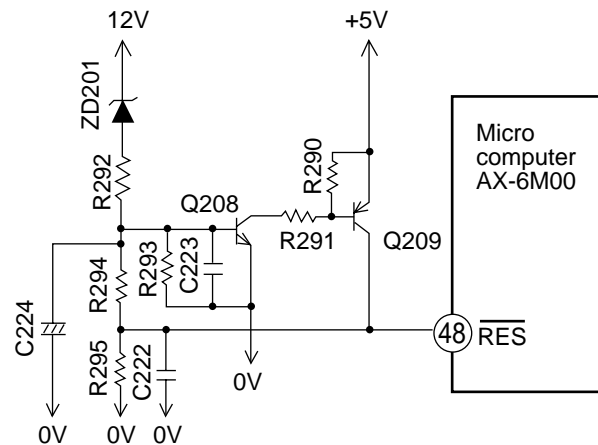
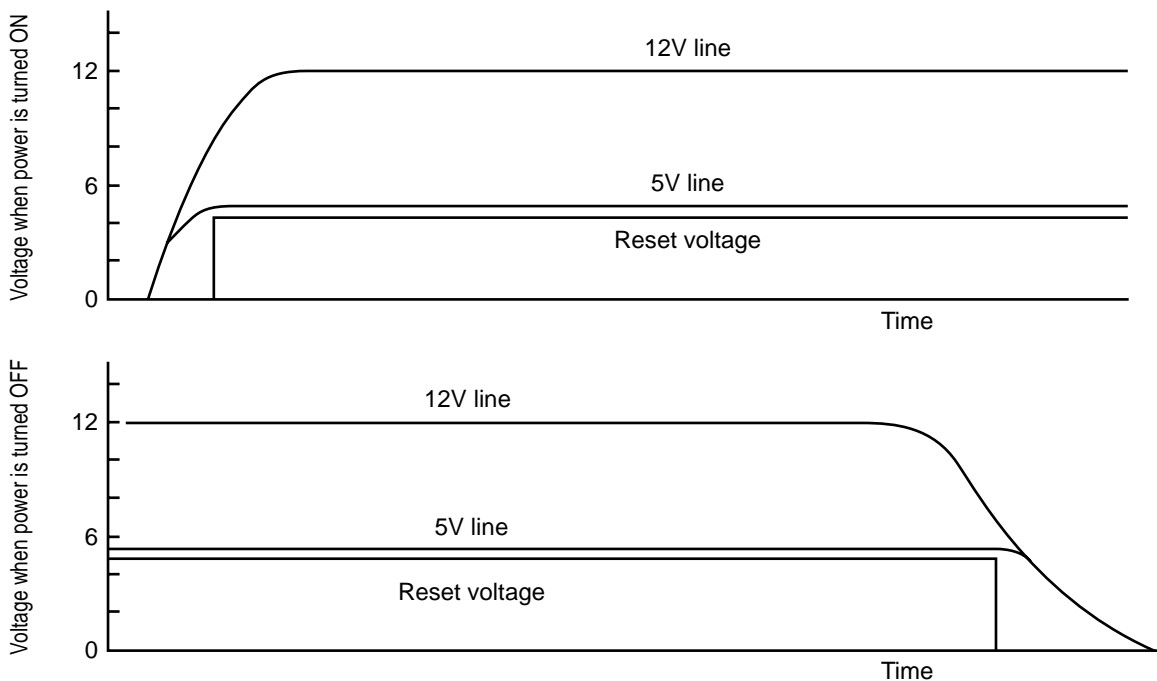

Fig. 9-1
Fig. 9-2
- Fig. 9-1 shows the reset circuit, and Fig. 9-2 shows waveforms at each point when power is turned on/off.